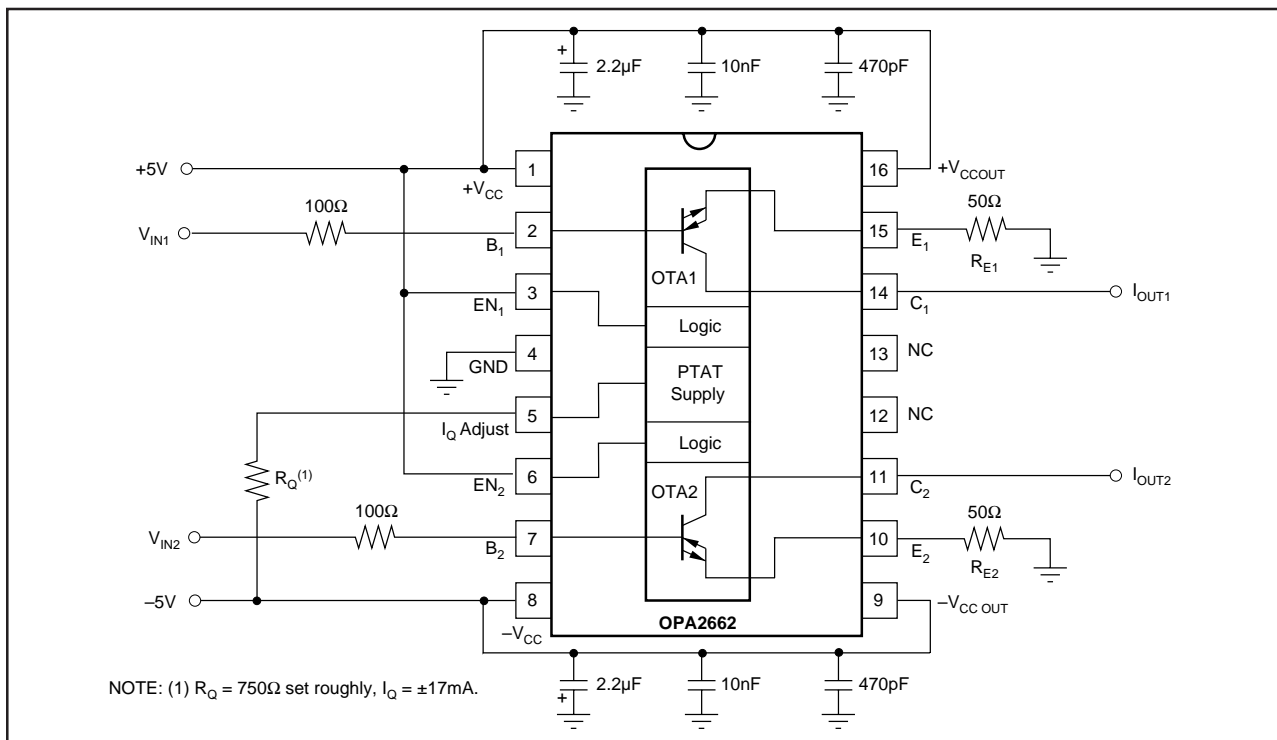

FIGURE 6. Basic Connections.
Shown in Figure 6 are the basic connections for the OPA2662's standard operation. Most of these connections are not shown in subsequent circuit diagrams for better clarification. Power supply bypass capacitors should be located as close as possible to the device pins. Solid tantalum capacitors are generally the better choice. For further details see the "Circuit Layout" section.
200ns at full output power ( $I_{OUT} = \pm 75\text{mA}$ ). This enable feature allows multiplexing and demultiplexing, or a shut-down mode, when the device is not in use. If the EN-input is connected to ground or a digital "Low" is applied to it, the collector (C) and emitter (E) pins are switched in the high-impedance mode. When the EN-input is connected to +5V ( $+V_{CC}$ ) or a digital "High" is applied to it, the corresponding OTA operates at the adjusted quiescent current. The initial setting for the enable pins is that they are connected to the positive supply as shown in Figure 6.